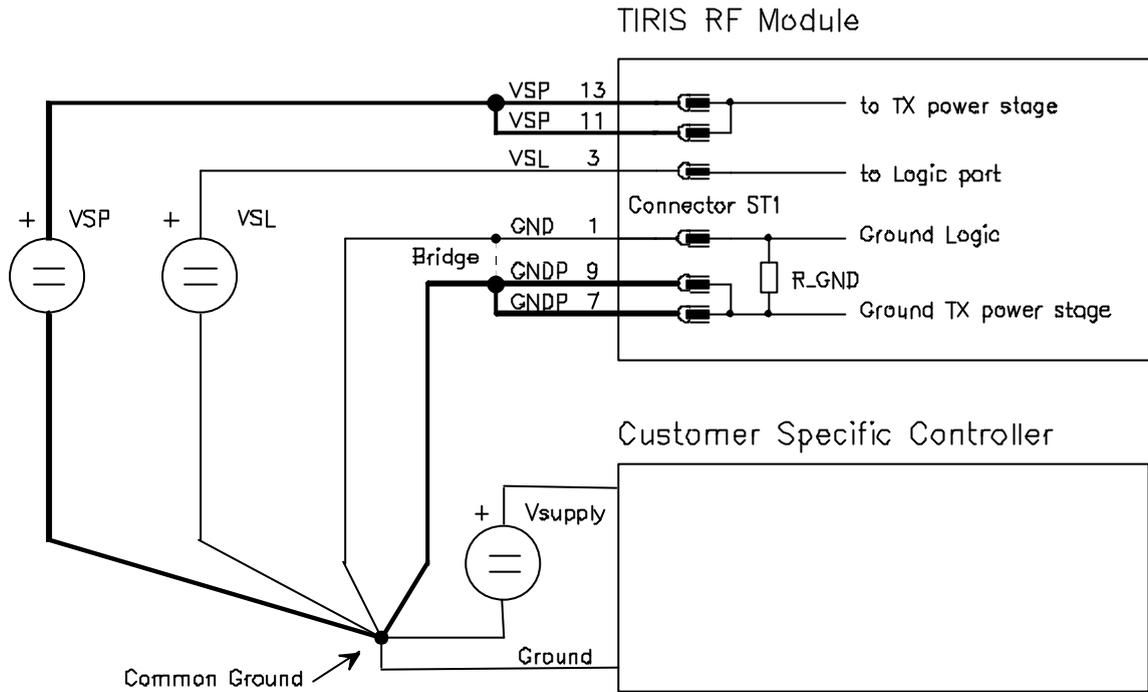

Figure 25: External Ground Connection (GND to GNDP)
1. Possibly high resistive GNDP pins would cause a voltage drop across these connector pins, because of the high transmitter power stage current (this does not apply to the supply pins of the Logic part). If the grounds were connected to each other internally, this would also lift the internal logic ground and cause logic level compatibility problems with the controller unit (see also figure 25). This is avoided, by connecting the grounds GND and GNDP externally.
2. In order to provide higher flexibility with long supply lines. Long VSP supply lines between the RF module and the controller unit cause a voltage drop across this supply line (again because of the high transmitter power stage supply current). This voltage drop would also lift the logic ground and cause logic level compatibility problems with the controller unit. This can again be avoided by connecting the grounds externally in any of three different ways (see also figure 25):
- a. For cable lengths of up to 0.5 m between the RF module and controller unit, the RFM ground pins GND and GNDP must be connected at the controller unit, as shown in figure 25. Here the grounds for the VSP, VSL and the controller unit supply are all connected together at the common ground.
- b. For cable length between 0.5 m and 2 m, the RFM ground pins GND and GNDP must be connected together at the controller unit in order to avoid logic level compatibility problems caused by the voltage drop across the VSP supply lines (see also figure 25). In this case, connecting the ground pins at the RF module is not allowed, because this would lift the logic ground level.
In this case, to avoid problems with difference voltages between GND and GNDP, these pins must always be connected directly at the RF module. A shorting bridge is necessary as close as possible to the RF module for this purpose, as shown in figure 25.